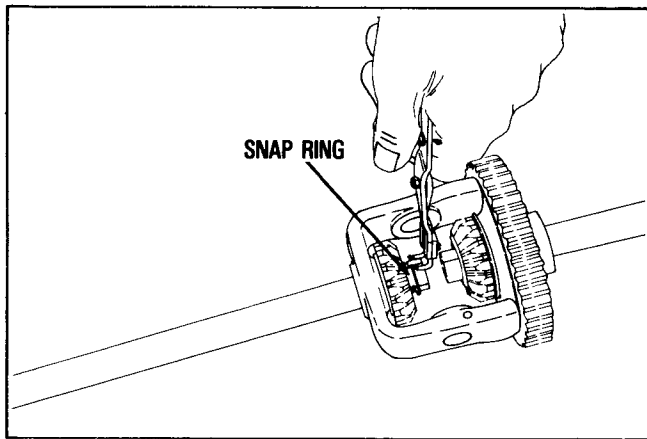

FIGURE 24
2. Place bevel gears on the shaft and install snap ring in groove on the shaft. (See Figure 24).